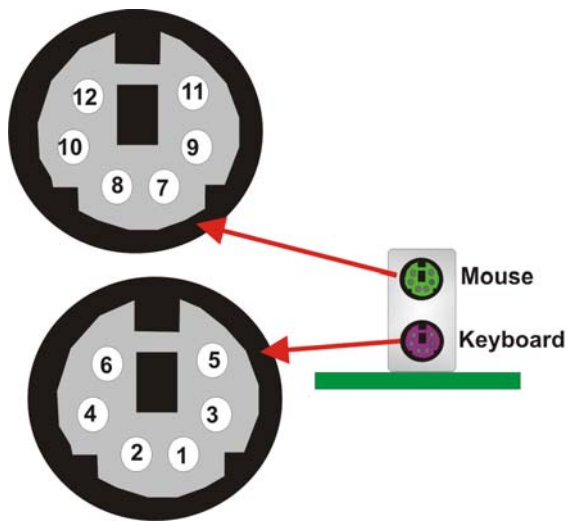

Figure 4-25: PS/2 Pinouts
- CN Pinouts: See Figure 4-25 and Table 4-26